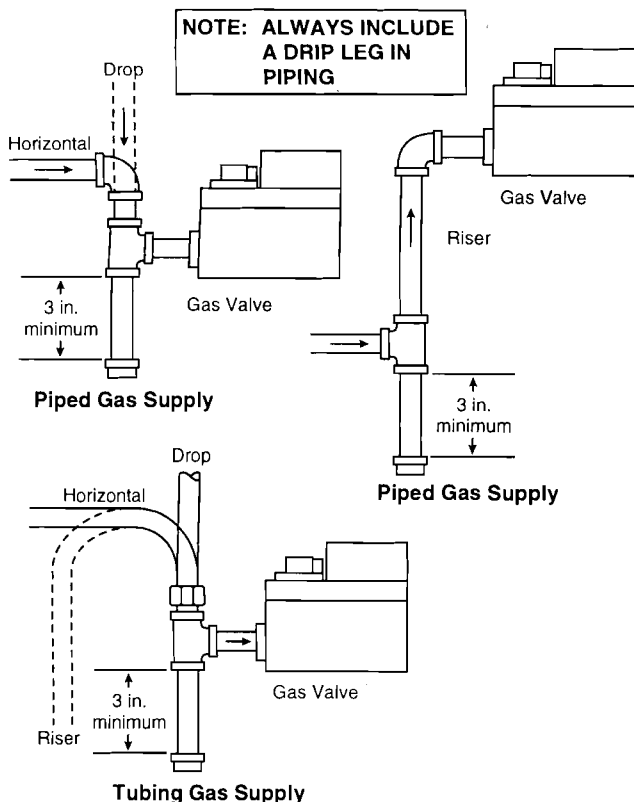

Figure 1. Typical gas valve piping
4. Apply pipe joint compound (pipe dope) or teflon tape **that is approved for all gases, only to the male threads of the pipe joints. DO NOT** apply compound or teflon tape to the first two threads (see fig. 1 for typical piping connections).